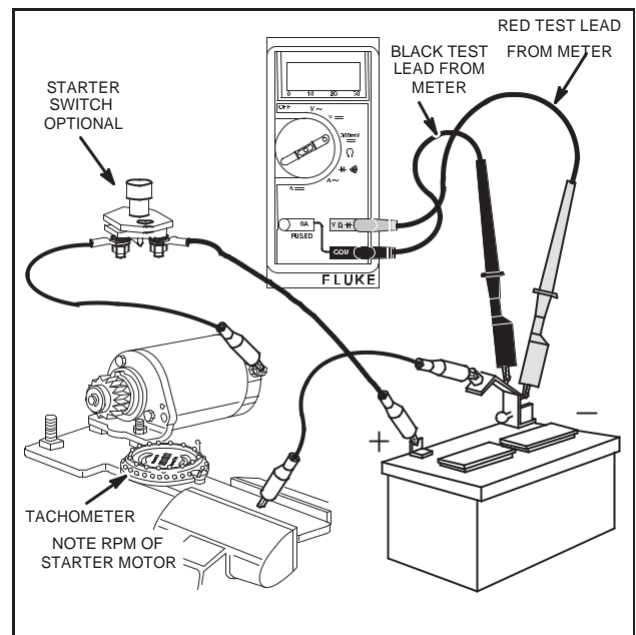

Fig. 6 - Testing Starter Motor
It is recommended that the starter motor be removed from the engine when testing starter motor performance. Remove rotating screen and blower housing. Remove two starter motor mounting screws. Assemble starter to test bracket and clamp test bracket in vise, Fig. 6.
1. The DC Shunt **MUST** be installed on the **negative (-)** battery terminal as shown in Fig. 6.